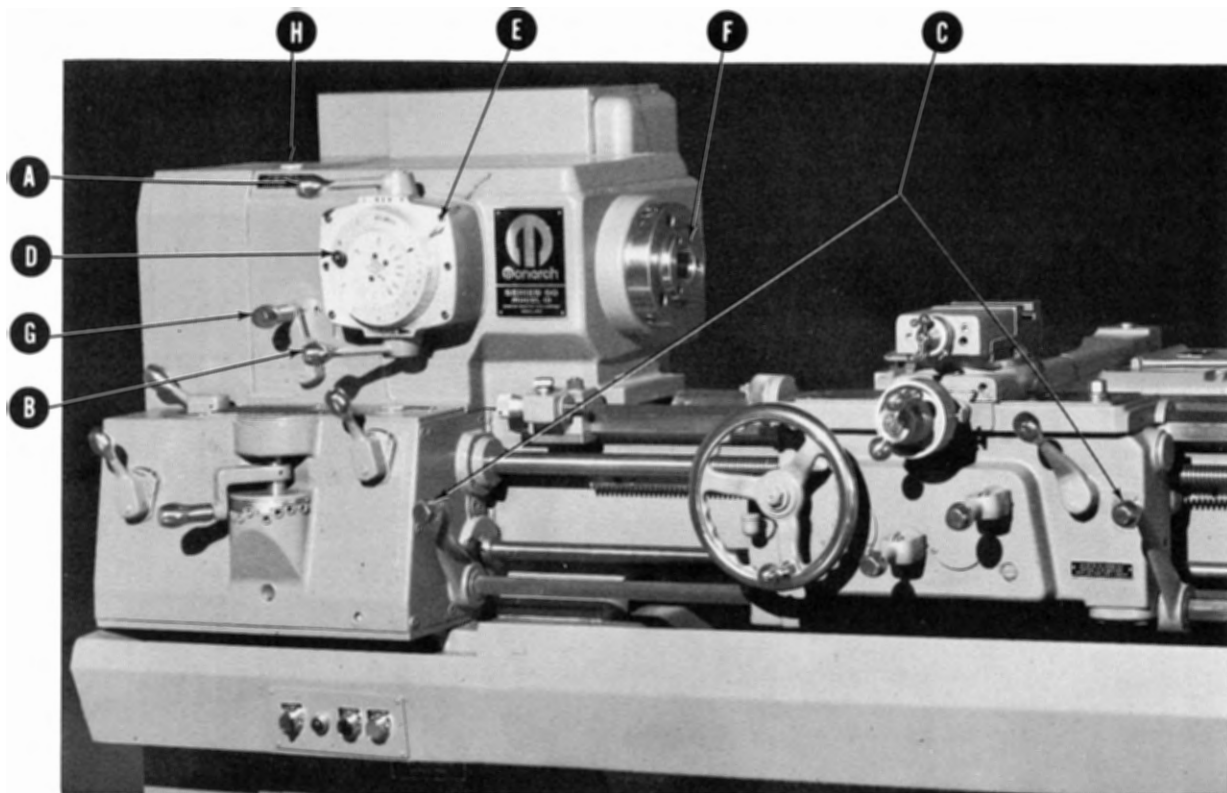

Figure 2. HEADSTOCK
**IMPORTANT:** The headstock oil level gage is located on the front toward the left end of the headstock. A filler cap (H) (figure 2) on top of the headstock cover provides a means of filling oil reservoir. By opening the upper end guard a pipe cap can be seen directly below the headstock belt sheave. This provides a means of draining the headstock reservoir.
(intermediate) and "L" (low) as shown on the RPM dial (Fig. 2).
1. Move the Forward-Stop-Reverse lever "C" to Stop position (Fig. 2) stopping the spindle.
The ASA camlock 6" type D-1 spindle nose (F) (Figure 2) affords a solid mount for chucks and face plate, by locating these units as closely as possible to the front anti-friction spindle bearings. Mounting procedure is as follows:
The lever marked (G) (Figure 2) slides a single jaw clutch in the headstock. When set to the right, it causes carriage motion toward the tailstock, for feeding or threading. When set to the left, carriage motion is toward the headstock